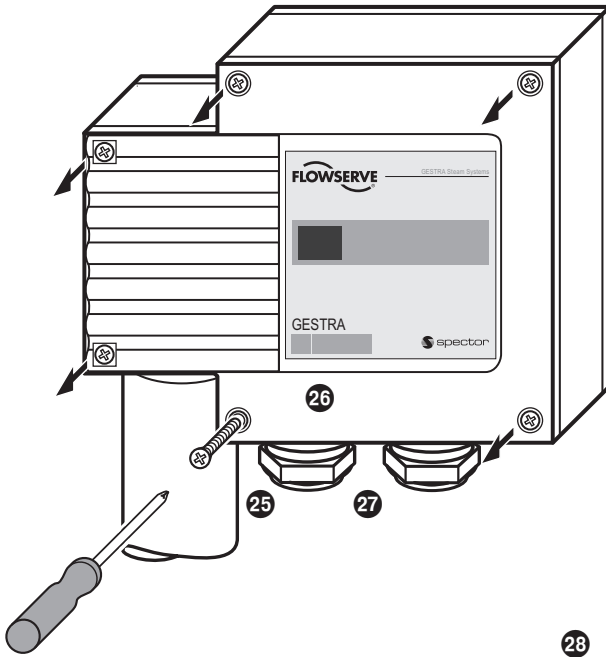

Fig. 10
1. Unscrew housing screws **25** and remove housing cover **26**. **Fig. 10**
1. Unscrew cover screws **25** and remove cover **26**. **Fig. 10**